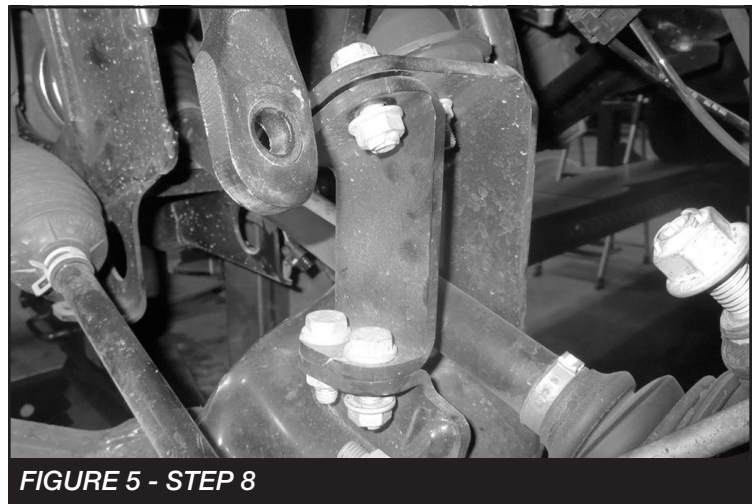

FIGURE 5 - STEP 8
8. Locate the bumpstop on the lower control arm. Loosen the upper bolt then remove the two lower bolts. **SEE FIGURE 5**